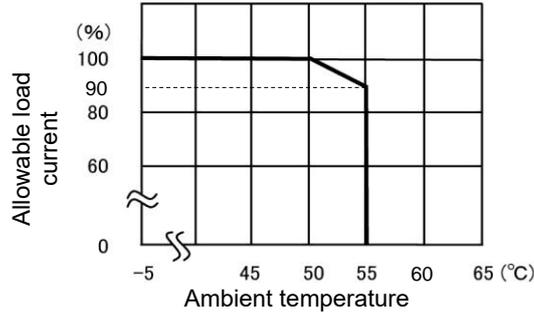

Fig. 5-2
- (5) Rated current is the value specified on condition that the ambient temperature is 50°C. If the temperature exceeds 50°C, decrease the load current according to Fig. 5-2.